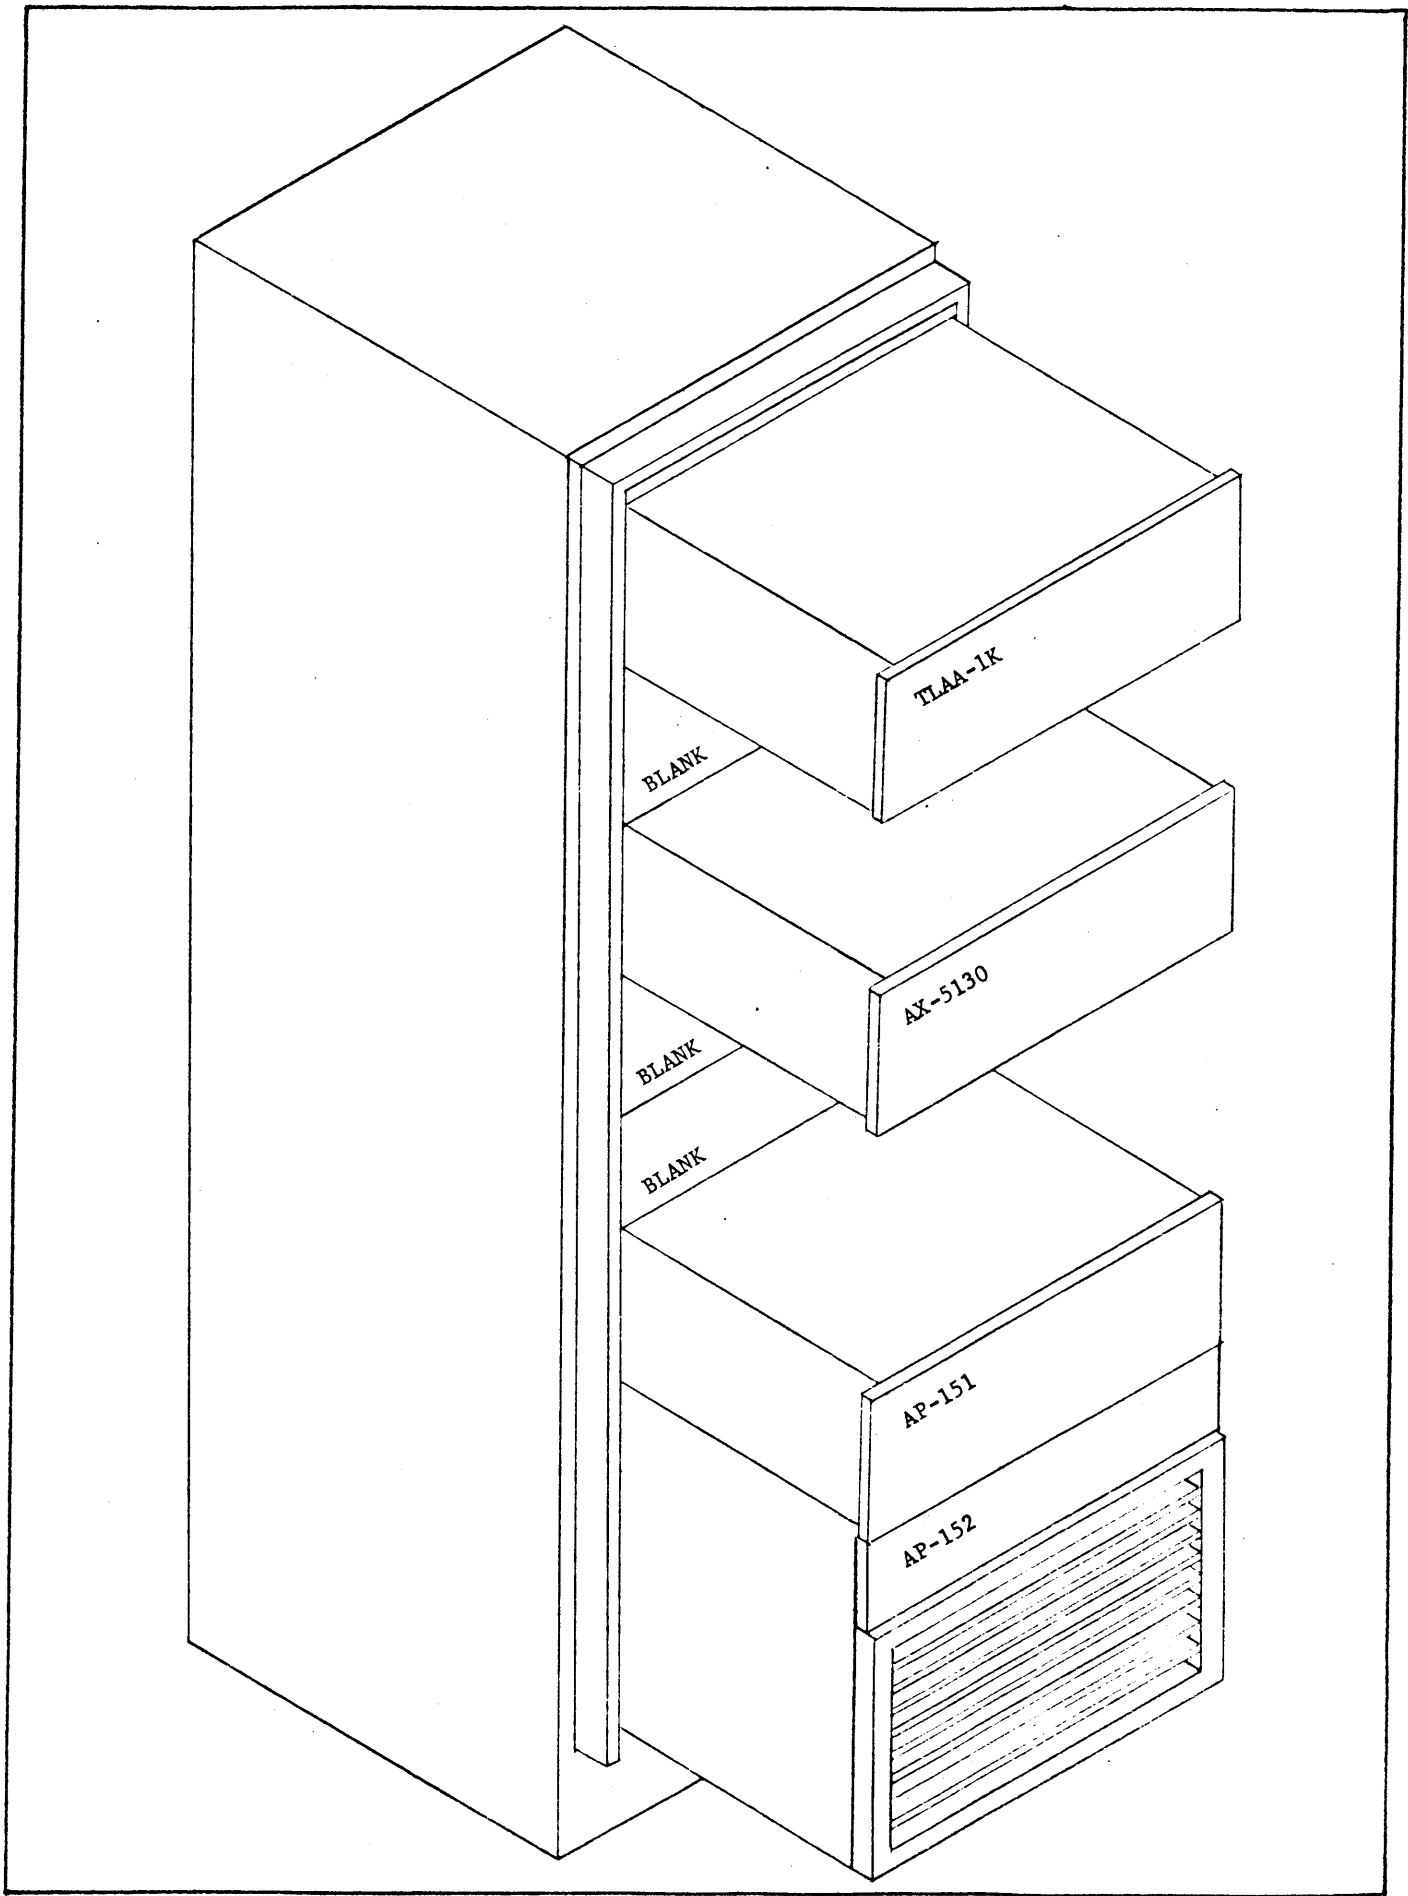

Figure 2-2. Typical HFLA-1K Installation
- a. All units in the HFLA-1K are slide-mounted; refer to figure 2-2 for information regarding cabinet location of modular units.